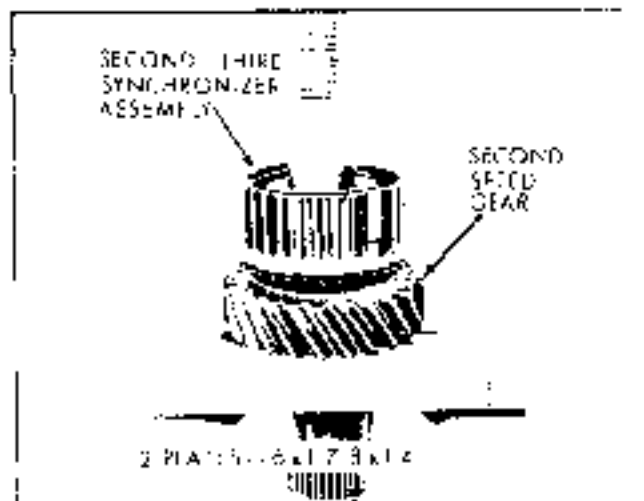

Fig. 7B-18 Removing Second + Third Synchronizer and Gear
6. Install second-third synchronizer sleeve (Fig. 7B-15).